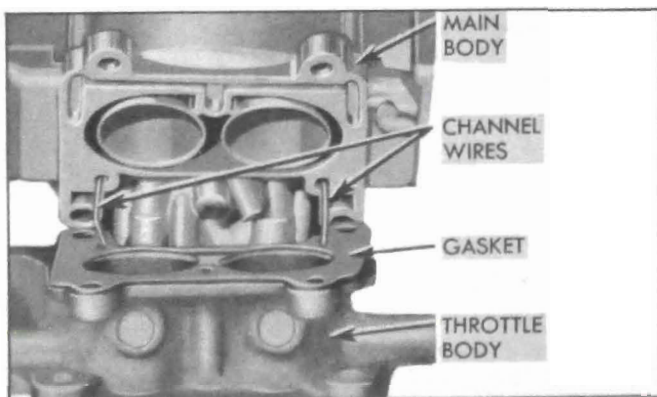

Figure 3-76—Location of Idle Channel Wires
10. Place *new* main body gasket on throttle body. Insert *short* ends of idle channel wires in idle channels of throttle body and guide opposite ends into idle channels in main body as it is placed on throttle body. See figure 3-76. Install long main body attaching screws on same side as idle needle valves and short screws on opposite side, using lockwashers on all screws.